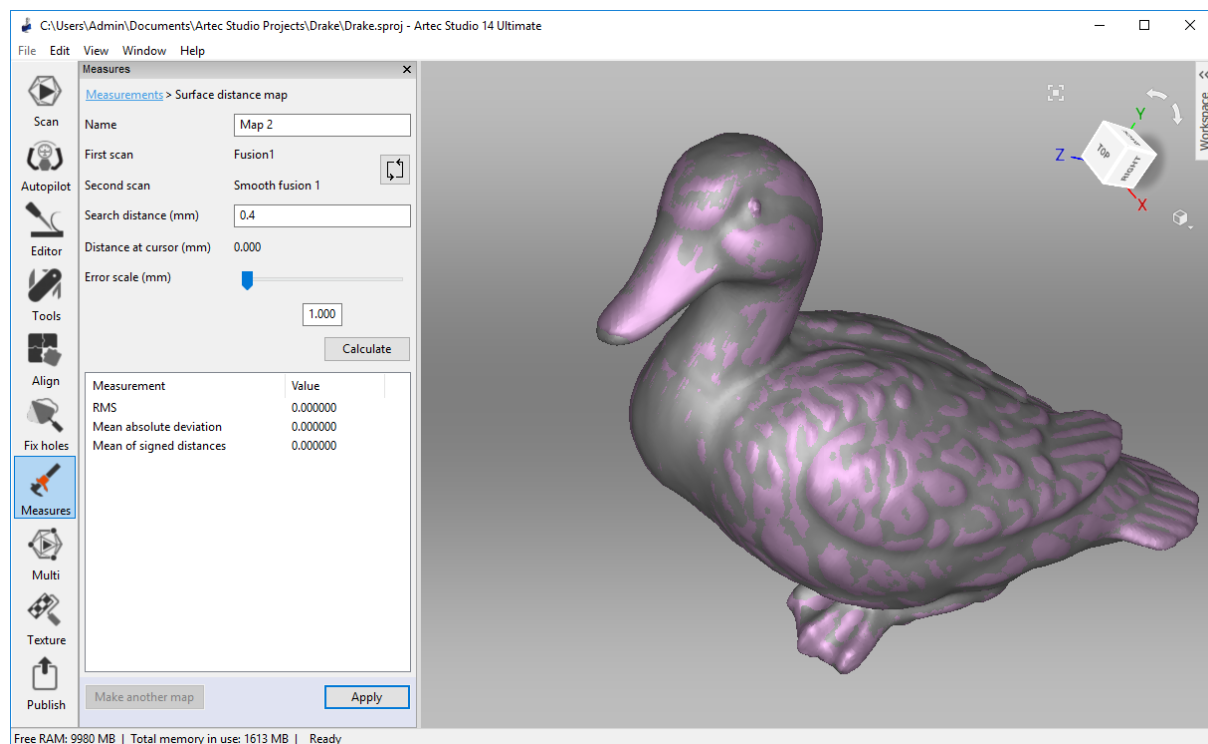

Figure 119: Specifying parameters for surface-distance map calculation.
3. If necessary, specify the name of the distance map in the *Name* field of the *Measures* panel (see Figure 119). By default the application creates new distance maps under the names Map 1, Map 2 and so on.